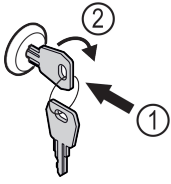

Fig. 185
- ▶ Insert the key. Fig. 185 (1)
- ▶ Turn the key clockwise by 90°. Fig. 185 (2)